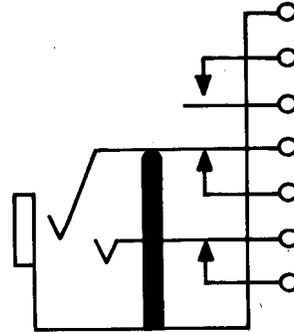

Fig. 23—573A or C Jack
2.23 573A and C: These single-mounted jacks (Fig. 23) are heavily insulated and have bifurcated "break" contacts and solderless wrap terminals. These jacks are arranged to be used with the 150, 184, 202, 213, 262, 310, 320, 331, and 338 type plugs. These jacks are intended to be mounted with the springs in a vertical plane. These jack are used with the DDD-Type Toll Offices.